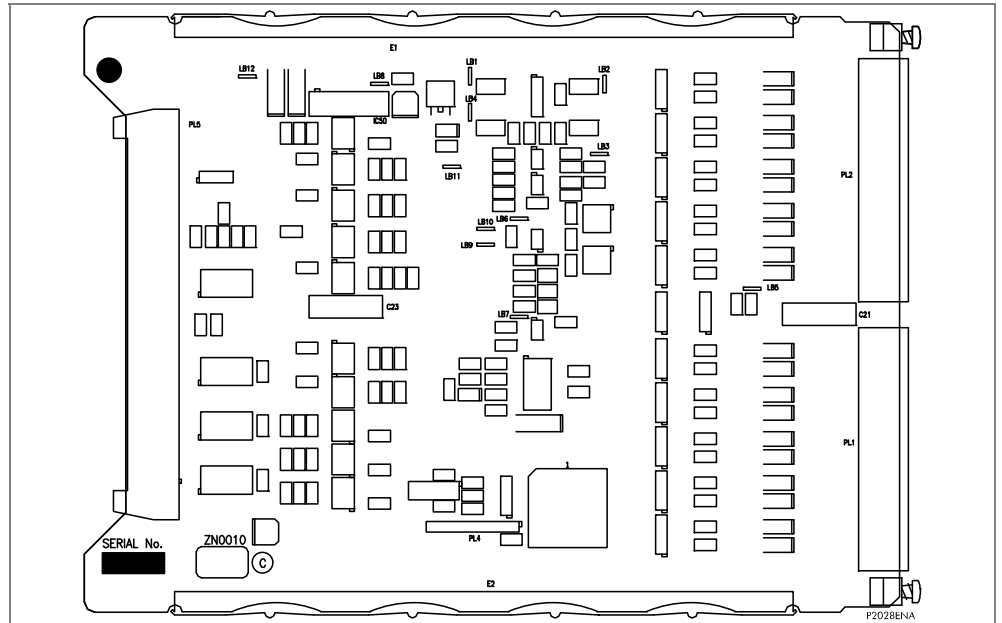

Figure 11 - Typical RTD input board
4. Gently pull the faulty RTD input PCB forward and out of the case. To help identify that the correct board has been removed, Figure 11 shows the PCB layout.
- 1. To replace a faulty CLIO board, first remove the two 15-way terminal blocks, each is fastened to its other half by slotted screws above and below the row of terminals, as shown in Figure 11. Remove these screws carefully as they are not captive in the terminal blocks.
- 3. The CLIO board is secured in the case by two screws accessible from the rear of the relay, one at the top and another at the bottom, as shown in Figure 11. Remove these screws carefully as they are not captive in the rear panel of the relay.